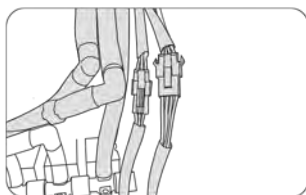

Figure 9
- Connect the joint of the air pipe and power cord (Note: There are marks on the air pipe and the cable connectors are different sizes). (Figure 9)